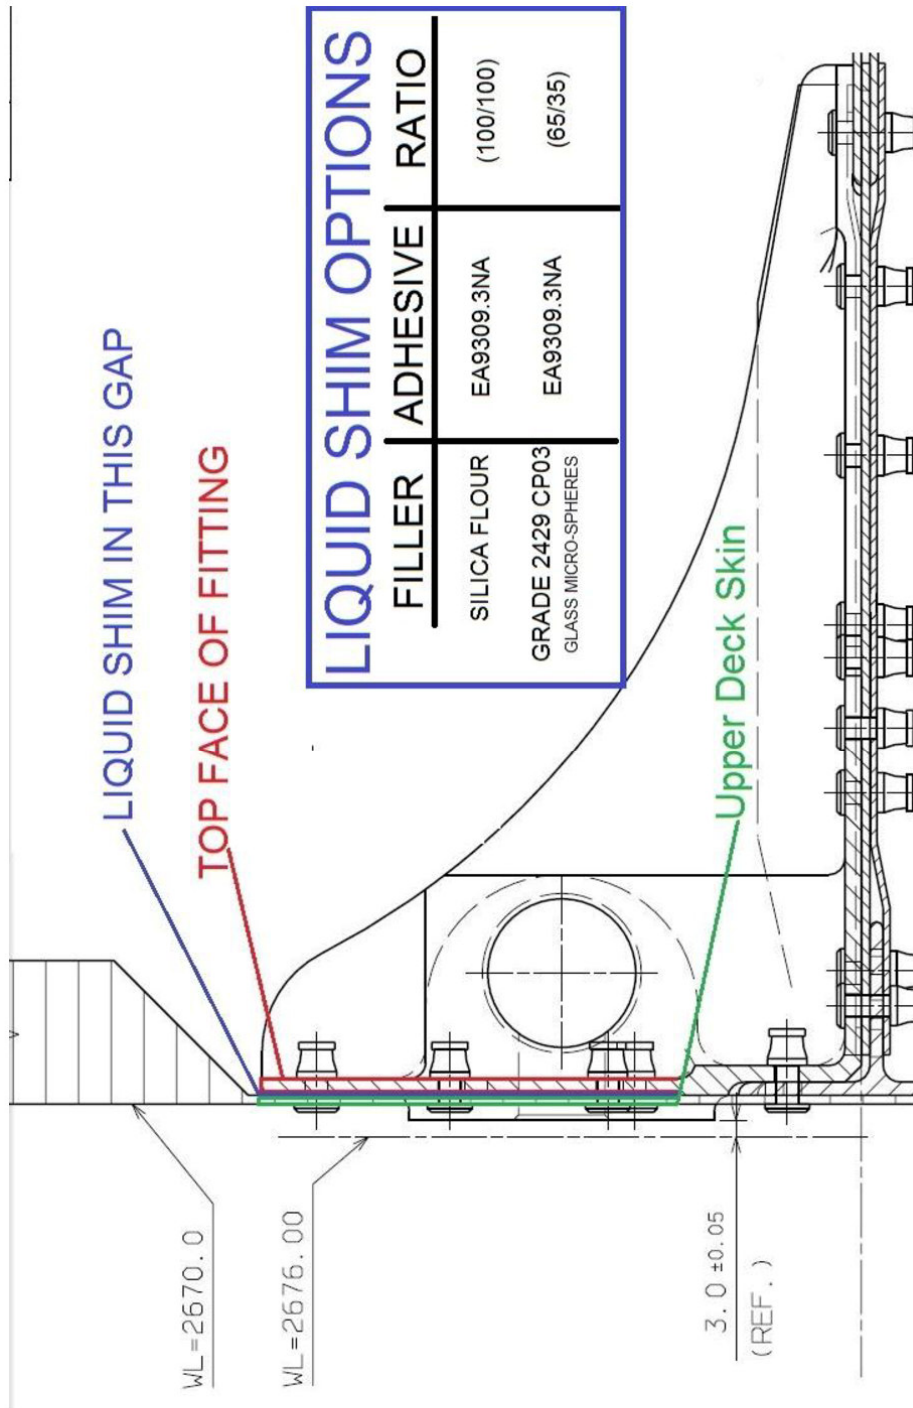

Figure 9 – Fitting Structural Gap
- 17.9 Using filler gauges (Support Equipment Ref.15), measure the gap between the top face of the fitting, and the bottom side of the upper deck skin as shown in in (Fig. 9). If this gap exceeds 0.70mm (.028 inch) notify the manufacturer, otherwise continue to step 18.
- 9. Figure 9 – Fitting Structural Gap